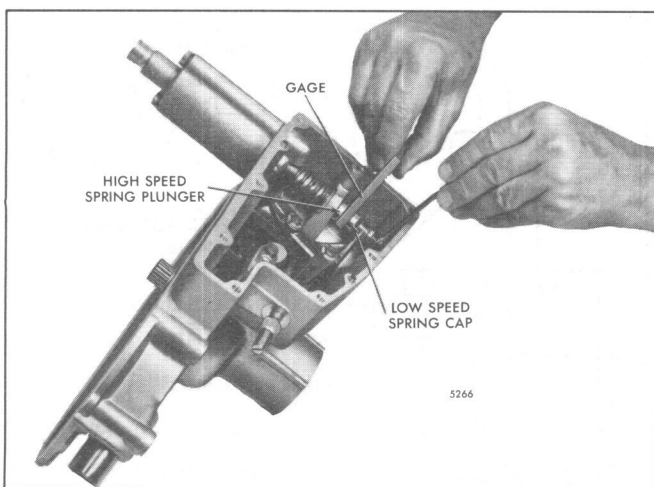

Fig. 3 – Adjusting Governor Gap (Single-Weight Governor) with Feeler Gage J 23478
3. Check the gap (.200") between the low-speed spring cap and the high-speed spring plunger with gage J 23478 (Fig. 3). A .200" stack-up of feeler gages can